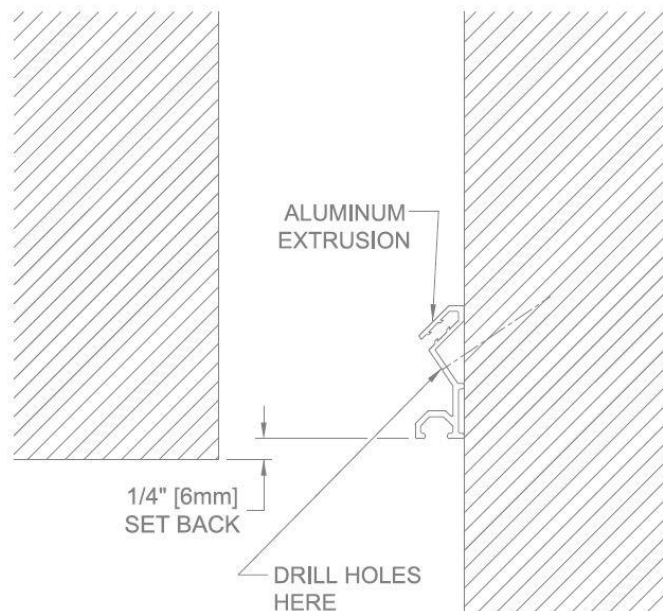

FIGURE 1
1. Position one of the frames onto the wall of the expansion joint and mark hole locations at 18" OC. (Reference shop drawings for more details) Drill $\text{Ø}3/16$ " holes into the extrusions at the marked locations. When attaching to a concrete wall, drill a hole into the concrete at these locations with a $\text{Ø}5/32$ " masonry bit. **See Figure 1.**